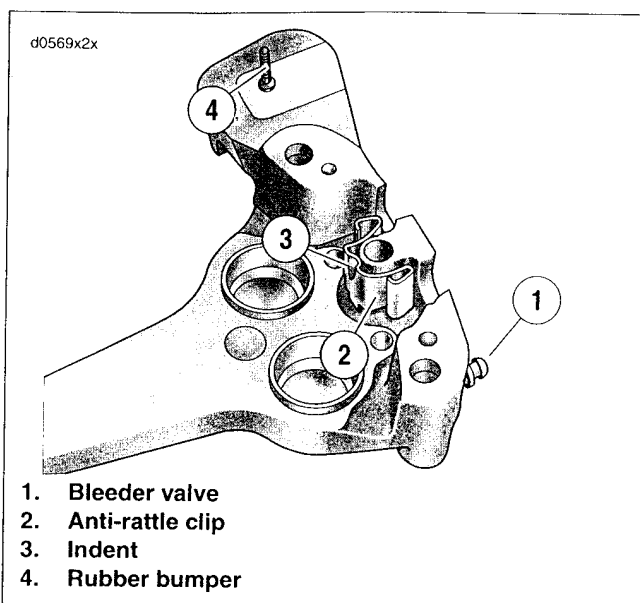

Figure 2-83. Anti-rattle Clip
- a. See Figure 2-83. Install bleeder valve (1) on outside caliper housing if removed. Tighten bleeder valve to 80-100 in-lbs (9.0-11.3 Nm).
- b. Place outside caliper housing on workbench with decal side down. Install anti-rattle clip (2) in channel with indent (3) facing upwards.
- g. If rubber bumper (4) on outside housing was removed, lubricate new part before installation.
- Anti-rattle clip orientation matches Figure 2-83.